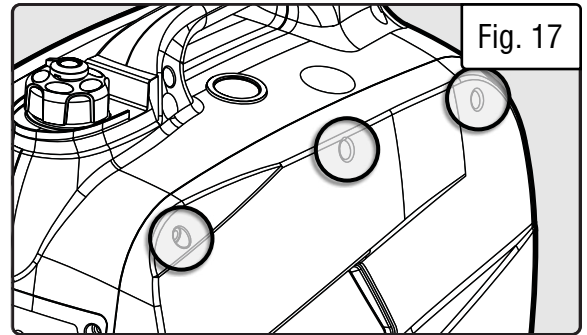

Fig. 17
2. Using a Phillips-head screwdriver (not included), remove the service panel by unscrewing the three Phillips-head screws (Fig. 17) along the upper edge.
1. Using a Phillips-head screwdriver (not included), remove the service panel by unscrewing the three Phillips-head screws (Fig. 17) along the upper edge.